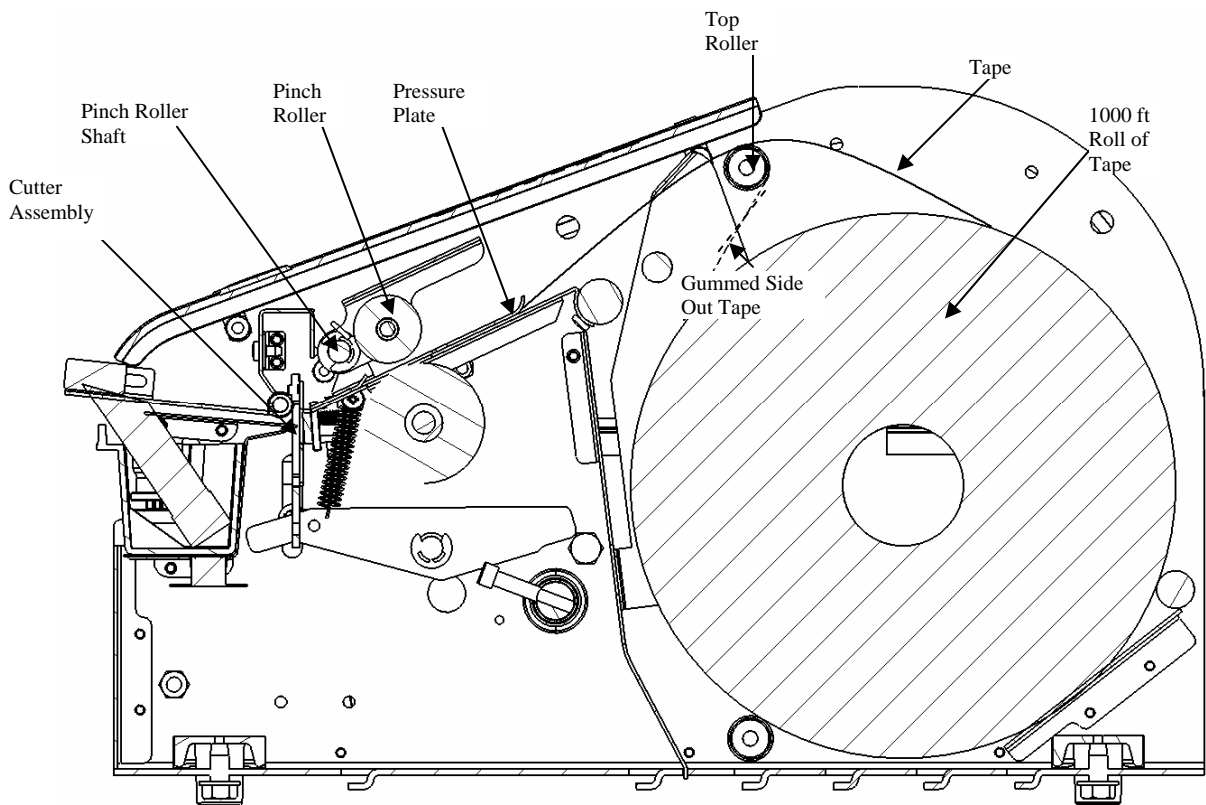

Figure 3 – Tape Routing
6. Feed the tape, gummed side down, over the top roller, under the tape guide flaps, and then under the pinch roller, see Figure 3.
Route the tape according to **Figure 3** (p. 7).